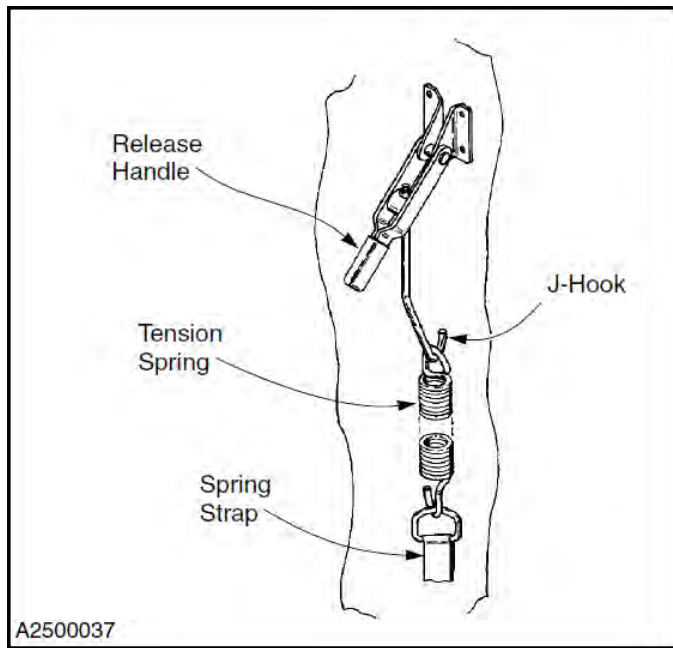

Figure 6
4. Unlatch the release handle on the spring tension assembly. (See Figure 6.)